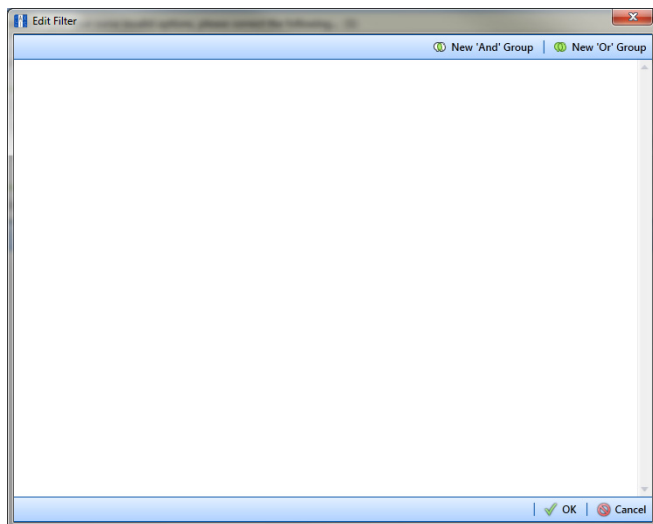

Figure 10-34. Edit Filter
- b Click  **Edit** in the *Filters* group box to open the *Edit Filter* dialog box (Figure 10-34).